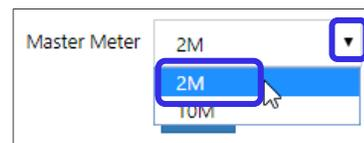

Figure 99: Select Master Meter for leak test
5. Click the down arrow icon ▼ in the **Master Meter** field and select the Master Meter to be leak tested (Figure 99).